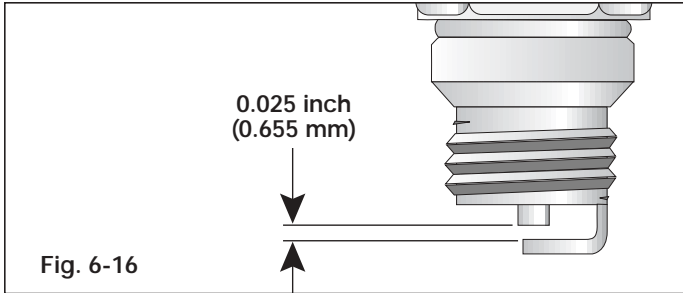

Fig. 6-16
3. Replace cracked, fouled or dirty spark plug. Set the air gap at 0.025 inch (0.655 mm) using a feeler gauge (Fig. 6-16).